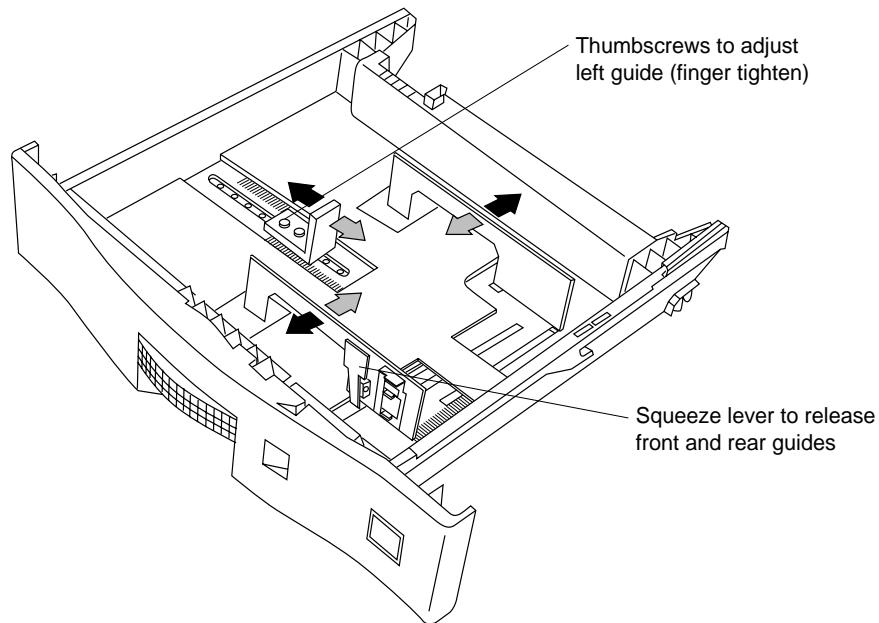

Figure 3-12 Custom Paper Tray guide adjustments
1. Adjust the guides to the size of your paper. Figure 3-12 shows the adjustment guide travel directions.